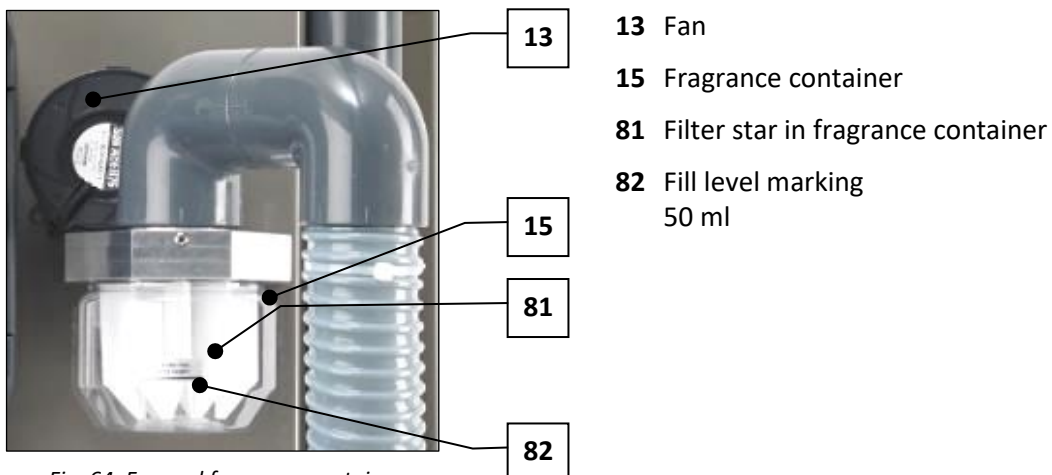

Fig. 64: Fan and fragrance container
- 2) Unscrew the *fragrance container* (Fig. 64, No. 15) from the aluminium holder and clean it, if necessary, or use a new fragrance container.
- 3) Insert a clean *filter star* (Fig. 64, No. 81) in the fragrance container.
Fill the desired fragrance concentrate into the fragrance container up to the *fill level marking* (Fig. 64, No. 82) (max. 50 ml).
- 4) Screw the *fragrance container* (Fig. 64, No. 15) back into the aluminium holder and check for a tight fit.